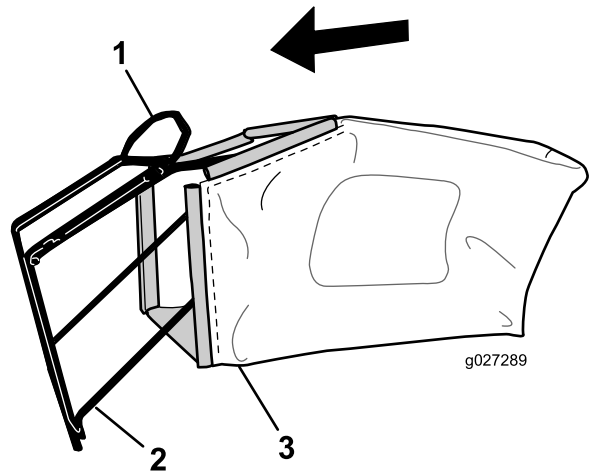

Figure 8
1. Slip the grass bag over the frame as shown in Figure 8.
Note: Do not slip the bag over the handle (Figure 8).